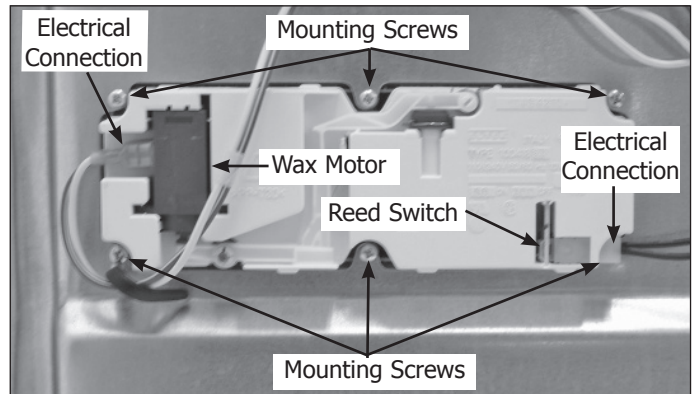

Figure 4-8.
4. Extract the six screws securing dispenser assembly to door panel. Remove mounting reinforcements from dispenser. (See Figure 4-8)